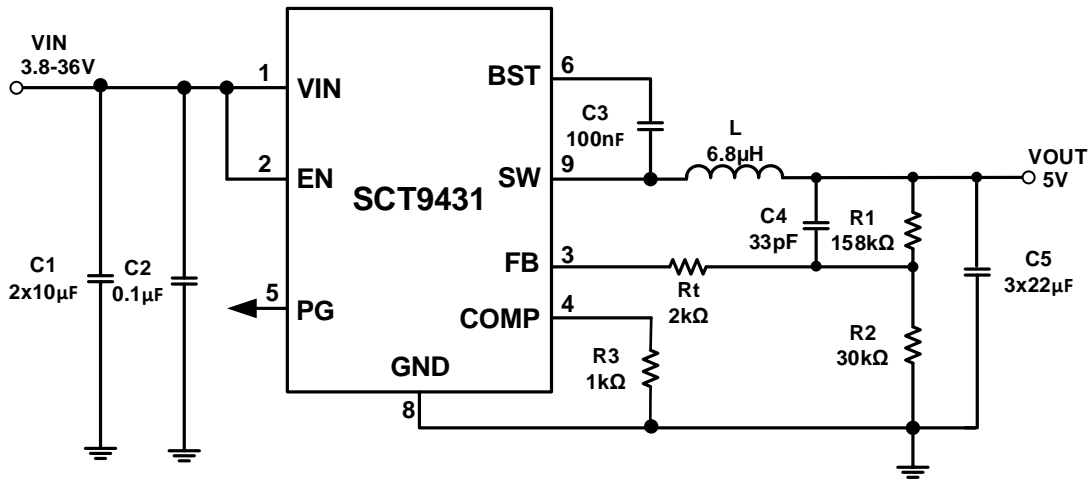

Figure 9. 12V Input, 5V/3A Output with Internal Compensation
The SCT9431 features external programmable output voltage by using a resistor divider network R_1 and R_2 as shown in the typical application circuit Figure 9. Use equation (11) to calculate the resistor divider values.